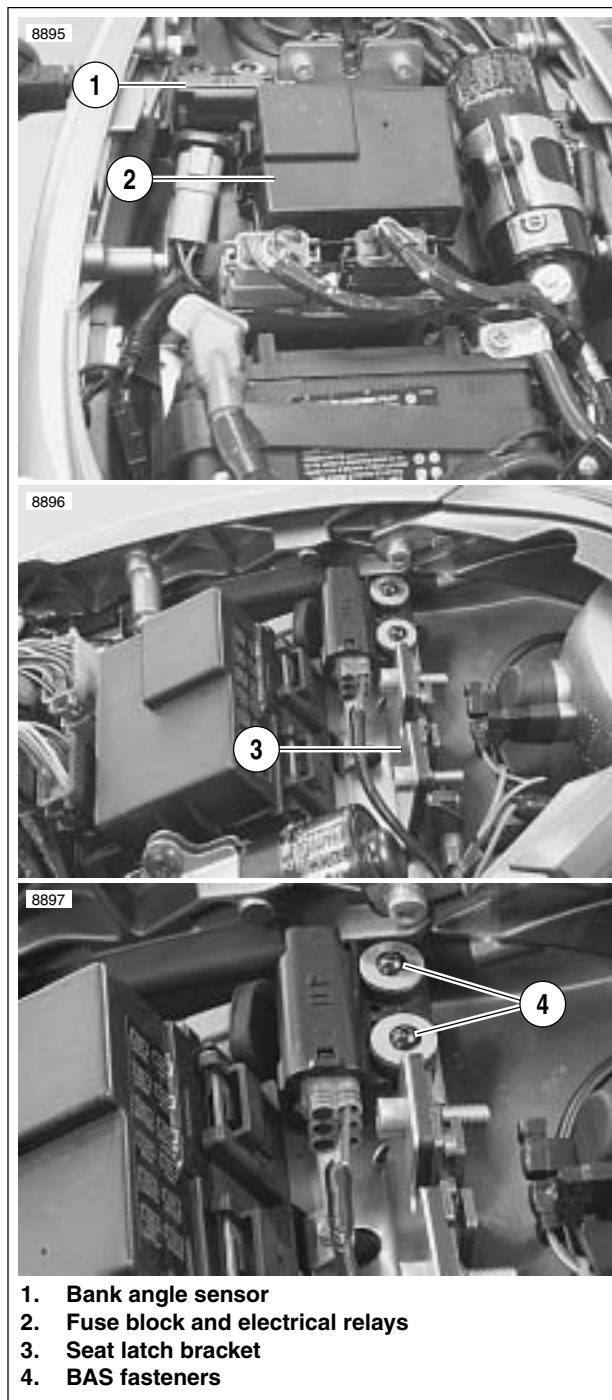

Figure 4-78. Bank Angle Sensor Location
3. See Figure 4-78. Remove screws and washers to detach sensor from seat latch bracket.
1. See Figure 4-78. Install bank angle sensor connector [134].